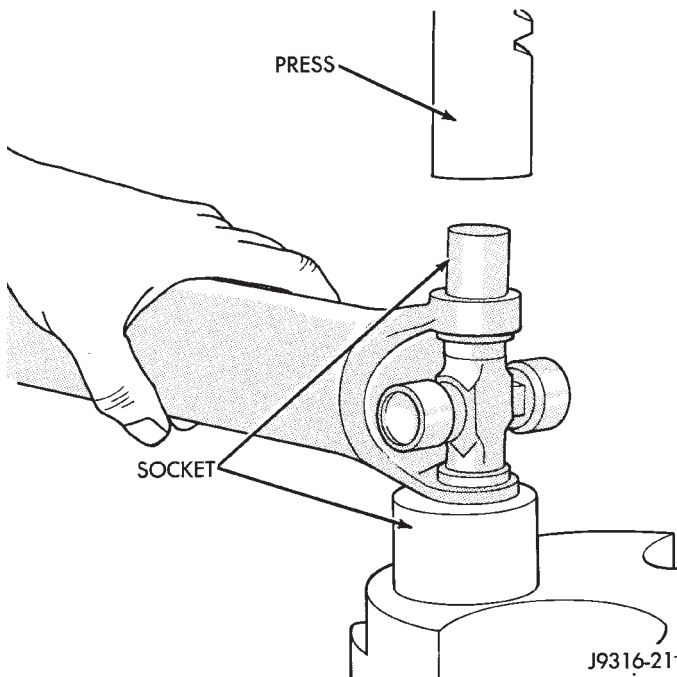

Fig. 18 Press Out Bearing
(6) Place a socket with an outside diameter smaller than the upper bearing cap on the upper bearing cap and press the cap through the yoke to release the lower bearing cap (Fig. 18).